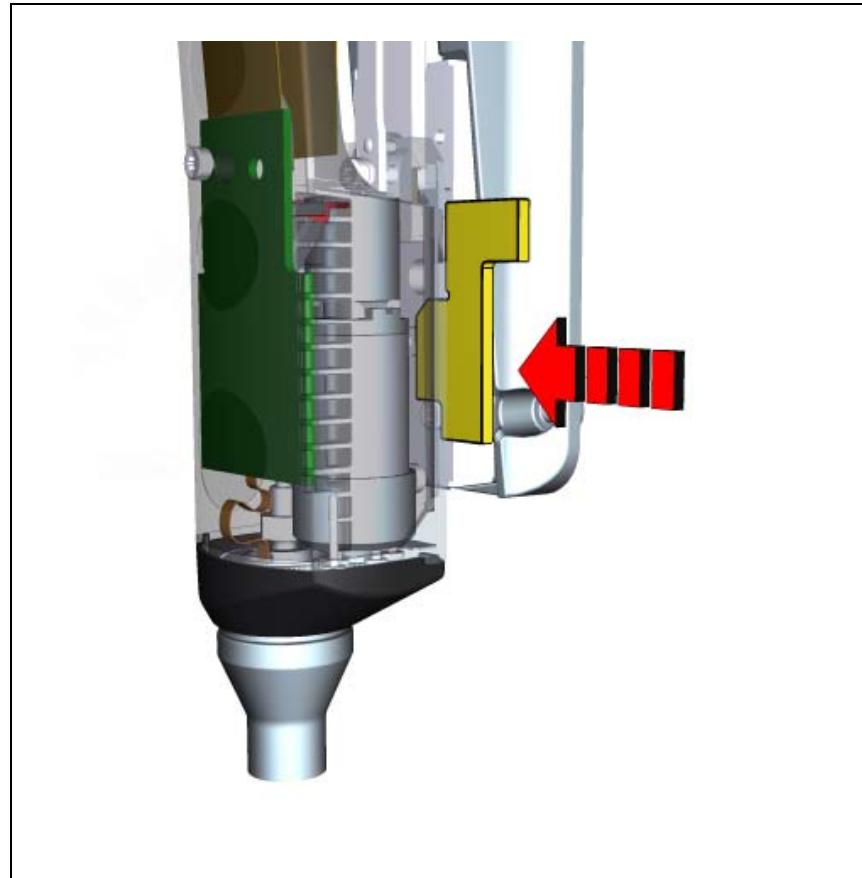

Figure 6-25. Insert spacer piece, Midas II.
– To fixate the Midas II unit in its correct position, a specifically designed spacer piece is needed. This spacer piece should be inserted between the stop screw and the stop lug on the Z unit sleigh as shown in Figure 6-25.
Note that some of the parts in Figure 6-25 have been rendered transparent to clarify the positioning of the spacer piece.